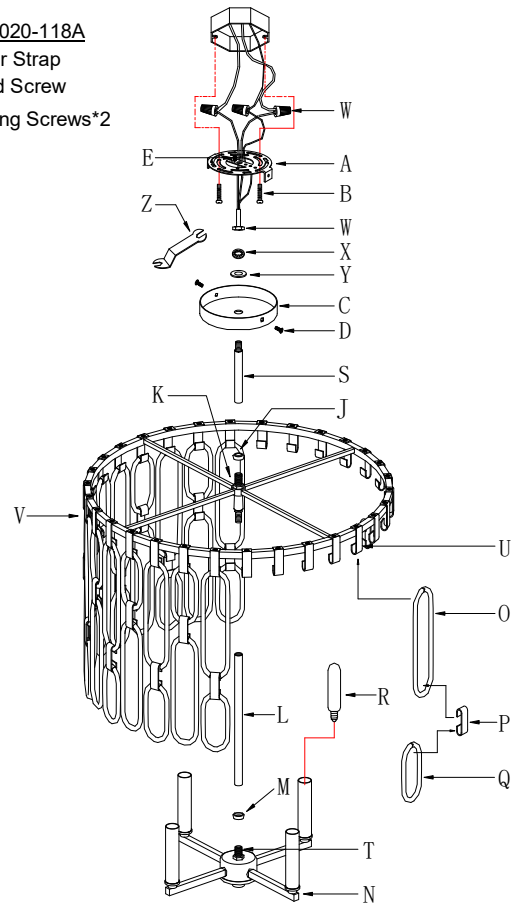

Fig. 5
ASSEMBLE THE FIXTURE AS SEMI FLUSH (Fig. 4&Fig. 5)
1. Loosen hex nut (W) using wrench (Z) provided. Carefully remove ground wire (AA), washer (X), lock washer (Y), canopy (C) and loop (G2) (Fig.5). Cut wire to length, if wire is too long.
2. Slide cap (M) onto all thread (T) at the top of cluster (N). Secure rod (L) onto all thread (T) on top of cluster (N). Secure fixture body (V) on top of rod (L).
3. Slide cap (J) onto all thread (K) at the top of fixture body (V). Secure rod (I) onto all thread (K) on top of fixture body (V).